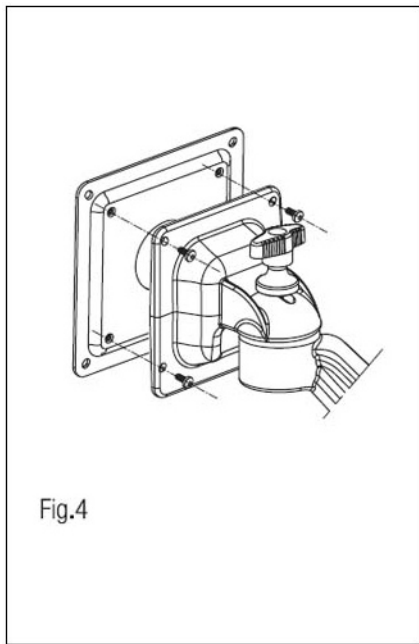

Fig.4
- For VESA 100mm model, screw the 100mm plate to the hanging bracket with M4 screws as shown in Fig. 4.